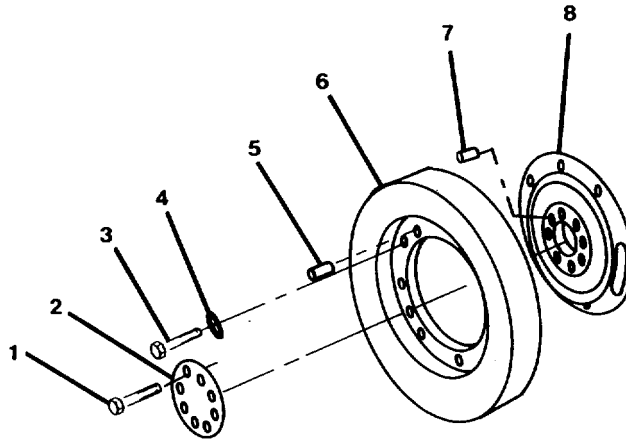

FIGURE 4-43. *Vibration Damper Mounting Components.*
- a. Remove bolts (3, FIG. 4-43) and washers (4), securing damper (6) to the crankshaft. Do not remove oil pin (5) unless it is damaged.
- b. Lift damper (6) away from crankshaft.
- c. Remove bolts (1) and spacer (2) from adapter (8). Remove adapter.
- d. Install two 9/16-18 capscrews that have enough thread length to pass through the adapter (8) and touch the front mount with approximately 3/8 inch (9 mm) of thread protruding from the adapter. Turn the capscrews clockwise alternately and evenly to pull the adapter from the crankshaft.
- e. Remove adapter (8). The roll pin (7) does not have to be removed unless it is damaged.
- b. Install roll pins in the front nose of the crankshaft and adapter face (7, FIG. 4-43), if they were removed.